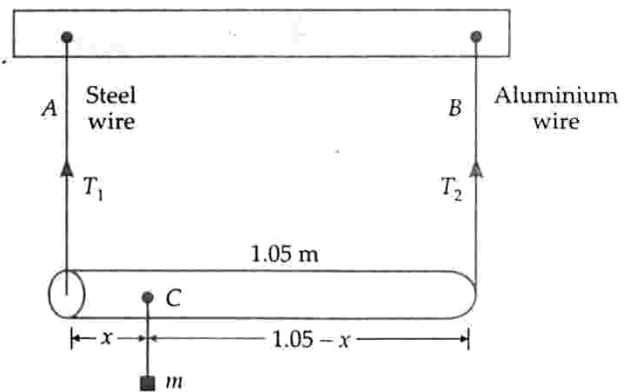

Fig. 9.36
9.18. A rod of length 1.05 m having negligible mass is supported at its ends by two wires of steel (wire A) and aluminium (wire B) of equal lengths as shown in Fig. 9.36. The cross-sectional areas of wires A and B are 1.0 mm^2 and 2.0 mm^2 respectively. At what point along the rod should a mass m be suspended in order to produce (a) equal stresses and (b) equal strains in both steel and aluminium wires?